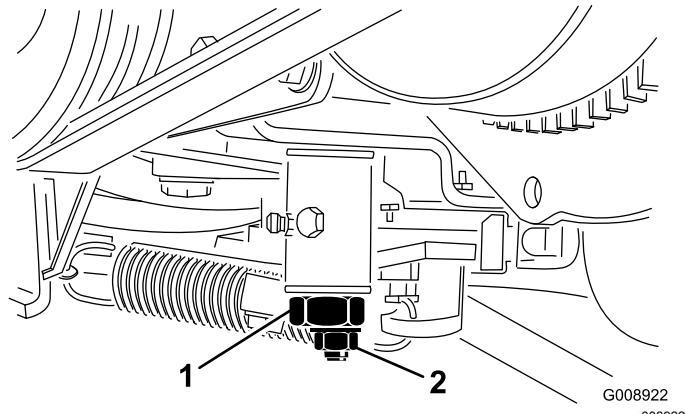

Figure 57
3. Loosen the locknut on the traction adjustment cam (Figure 57).